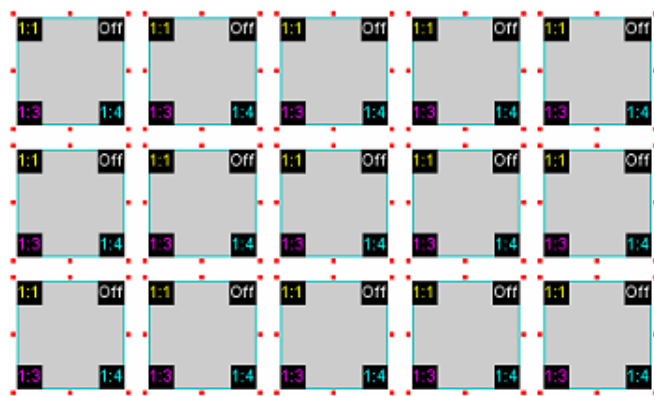

FIG. 392 Buttons selected for Power Assign
1. In a Design View window, select the buttons that you want to include in this Power Assign (FIG. 392):